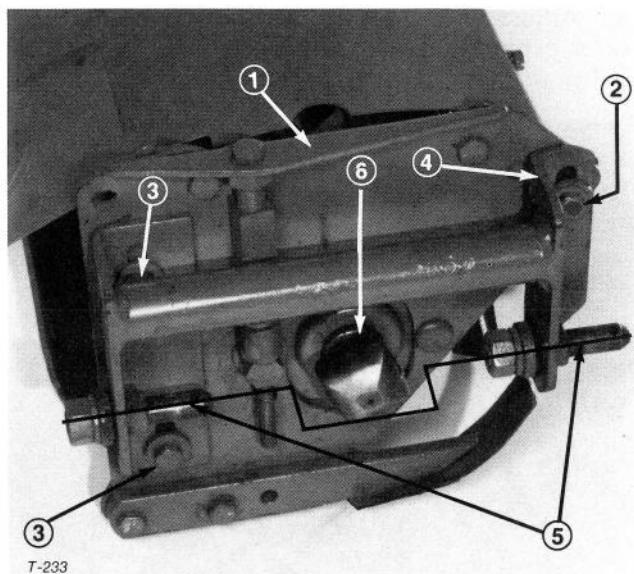

Figure 28
cutting performance will be deteriorated (Fig. 28). Also, due to normal wear of the reel and bedknife, the drive balls on reel shafts of the front units will drop below the centerline of the pivots. This affects pivot action of the balls and causes excessive wear on the drive balls. If this condition is allowed to continue, the reel drive shaft will come into contact with the intermediate frame. Periodically check for this condition and readjust as follows:
A. Loosen nut at front of unit and capscrews at rear securing pivot frame (Fig. 28).
B. Adjust pivot frame until flange is parallel, placing unit at proper attitude (Fig. 28).
C. Tighten capscrews and nut to secure adjustment (Fig. 28).
B. Loosen nut and capscrews securing pivot frame and adjust pivot frame until pivot pins centerlines are aligned with center of drive ball (Fig. 28).